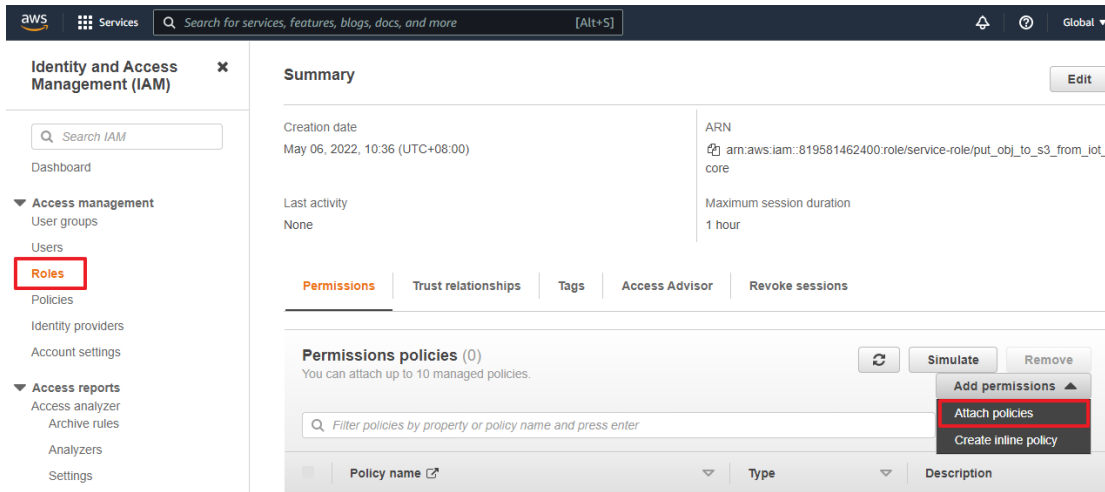

Figure 4-151 Prepare to attach Policy to Role
14. The Role requires a Policy to have functionality. Click on "Roles" on the left-hand side of the dashboard, then click on the recently created Role. Expand the "Add permissions" section and select "Attach policies" (as shown in Figure 4-151).